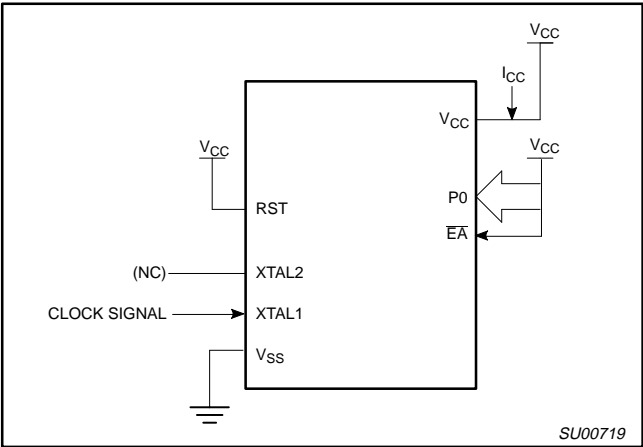

Figure 9. I_{CC} Test Condition, Active Mode
- See Figures 9 through 12 for I_{CC} test conditions.